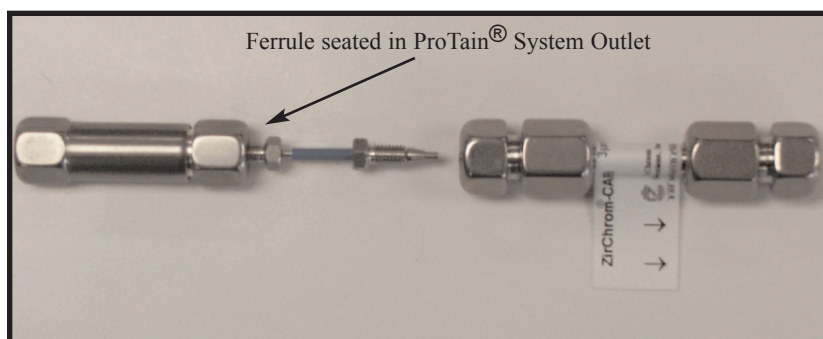

Figure 3: Setting Ferrule into Holder
4. Place one end of the assembled capillary tubing into the threaded cap of the holder. Holding tubing firmly seated into threaded cap tighten nut until finger-tight (See figure 3). Using a 1/2" wrench and a 1/4" wrench tighten connection to leak-tight. Loosen connection and remove to ensure that the ferrule has been seated correctly. Return connection to holder and re-tighten. Repeat procedure with opposite end of the capillary tubing and the inlet of analytical column.